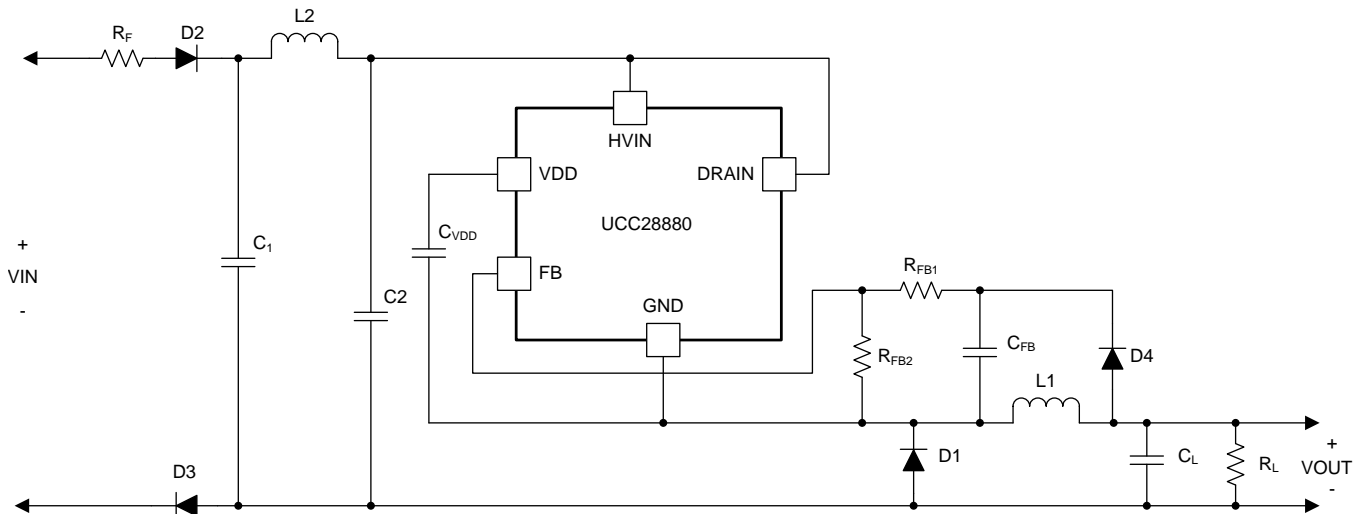

Figure 19. High-Side Buck Converter Schematic
Figure 19 shows a typical application example of a non-isolated power supply, where the UCC28880 is connected in a high-side buck configuration having an output voltage that is positive with respect to the negative high-voltage input (VIN-).
In low-side buck converter the output voltage is always sensed by the FB pin and UCC28880 internal controller can turn on the MOSFET on VOUT. In high-side buck converter applications the information on the output voltage value is stored on C_{FB} capacitor. This information is not updated in real time. The information on C_{FB} capacitor is updated just after MOSFET turn-off event. When the MOSFET is turned off, the inductor current forces the freewheeling diode (D1 in Figure 19) to turn on and the GND pin of UCC28880 goes negative at $-V_{d1}$ (where V_{d1} is the forward drop voltage of diode D1) with respect to the negative terminal of bulk capacitor (C1 in Figure 19). When D1 is on, through diode D4, the C_{FB} capacitor is charged at $V_{OUT} - V_{d4} + V_{d1}$. Set the output voltage regulation level using Equation 18.
- R_{FB1} , R_{FB2} is the resistance of the resistor divider connected with FB pin (see Figure 19)
- Select the time constant τ_{FB} , given in Equation 19 (18)